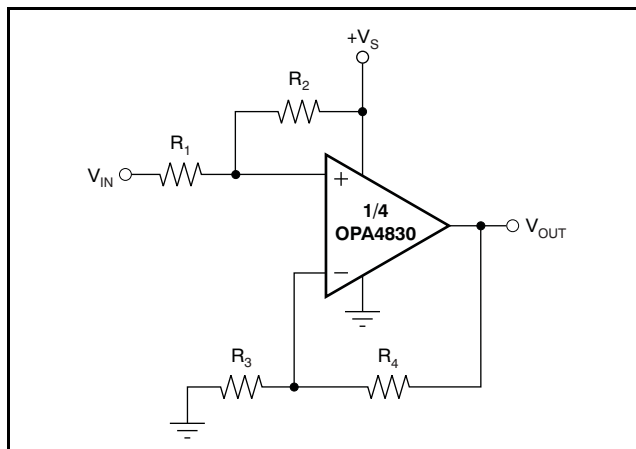

Figure 75. DC Level-Shifting
Figure 75 shows a DC-coupled noninverting amplifier that level-shifts the input up to accommodate the desired output voltage range. Given the desired signal gain (G), and the amount VOUT needs to be shifted up (ΔVOUT) when VIN is at the center of its range, Equation 1 and Equation 2 give the resistor values that produce the desired performance. Assume that R4 is between 200Ω and 1.5kΩ.